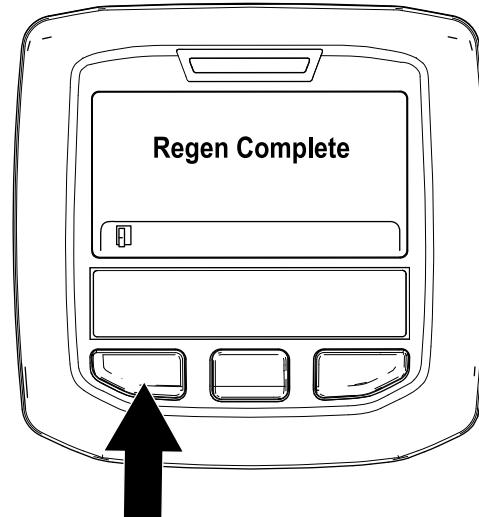

Figure 53
- The parked regeneration is complete when the “Regen Complete” message displays in the InfoCenter. Press the left button to exit to the home screen (Figure 53).